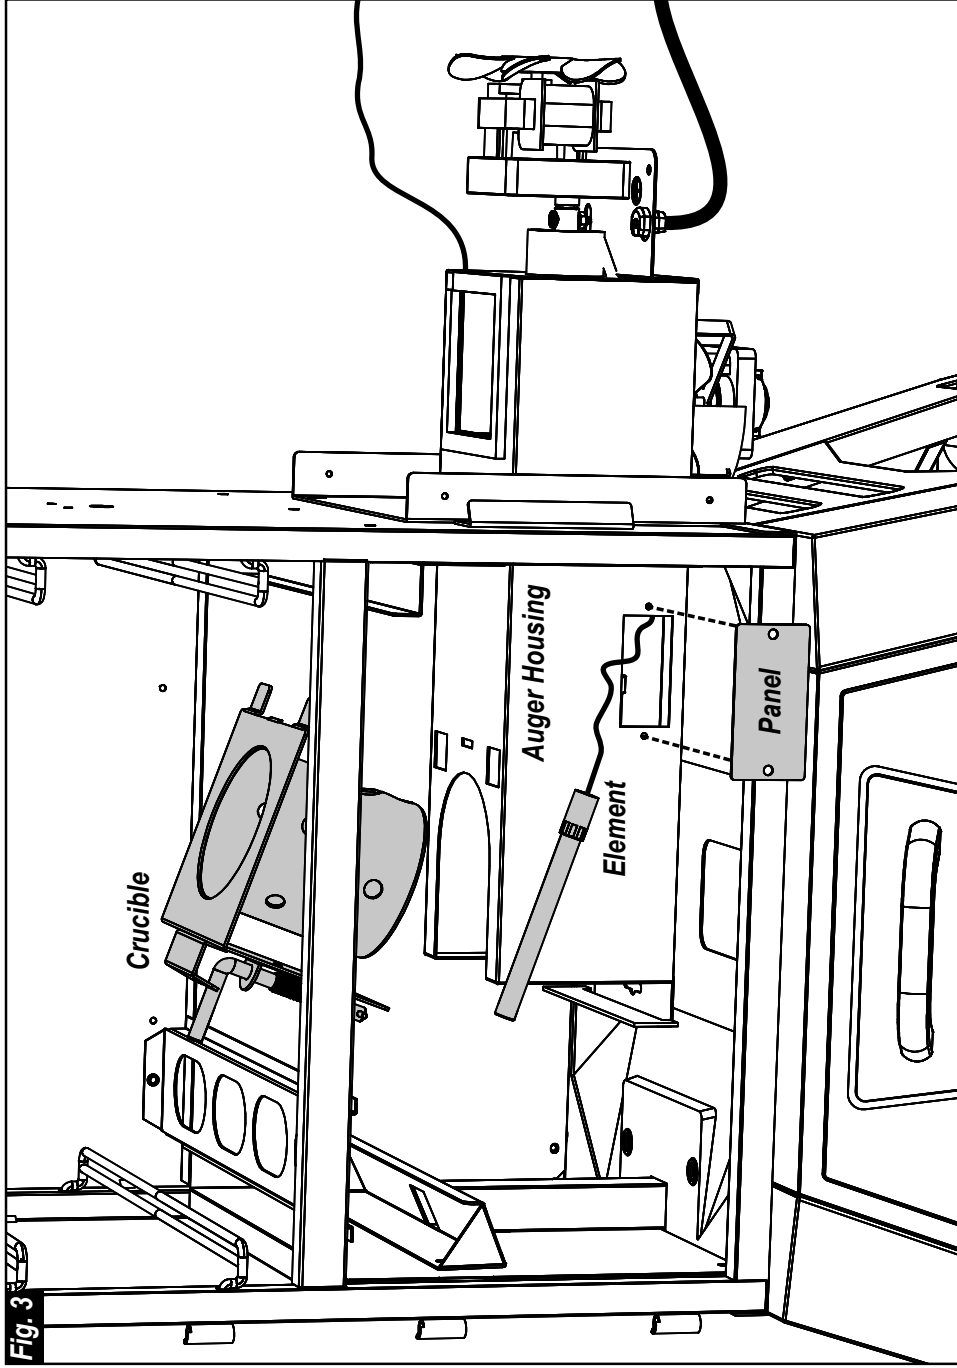

Fig. 3
7. Remove crucible from auger housing (**Fig. 3**).